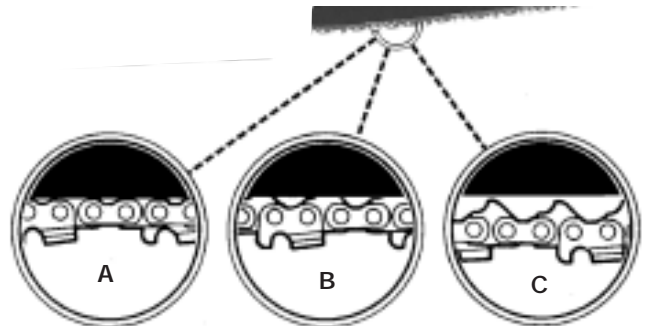

Fig. 13
**NOTE:** A new chain and bar will need readjustment after as few as 5 cuts. This is normal during the break-in period, and the interval between future adjustments will lengthen quickly (Fig. 13).